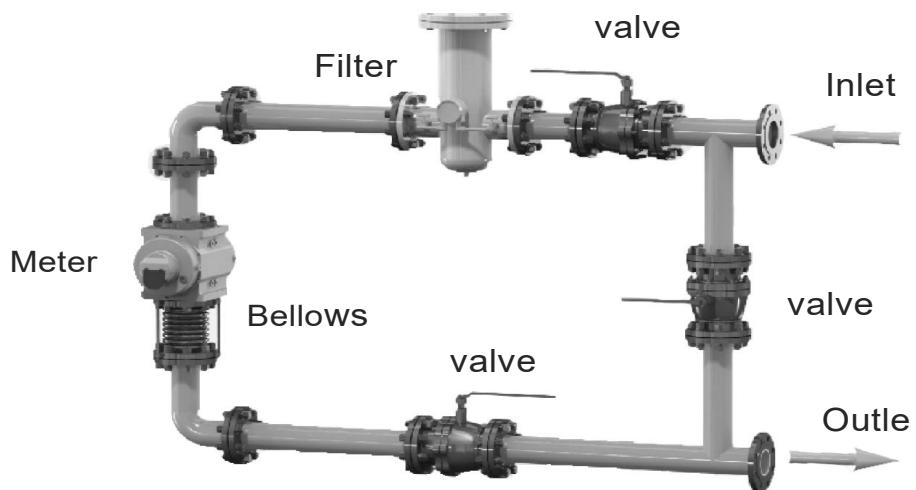

Figure 7 Vertical installation
6.1.1 Vertical installation (see Figure 7): When installed vertically, the gas inlet must be at the top, and the airflow flows from top to bottom, that is, top in and bottom out. The company recommends that users use vertical installation as much as possible. Vertical installation is helpful to the impeller's self-cleaning ability against debris.
(3) The oil injection hole is located directly above the meter, and the oil drain hole is located below the meter, as shown in Figure 7